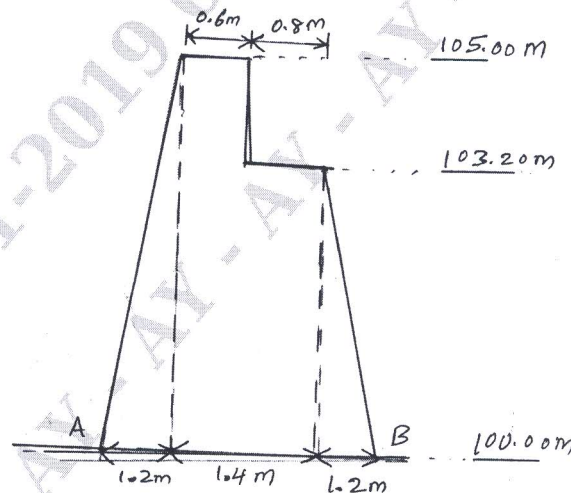

Fig.Q.9
- 9 Verify the stability of the abutment shown in Fig.Q.9. The other salient details are given below: